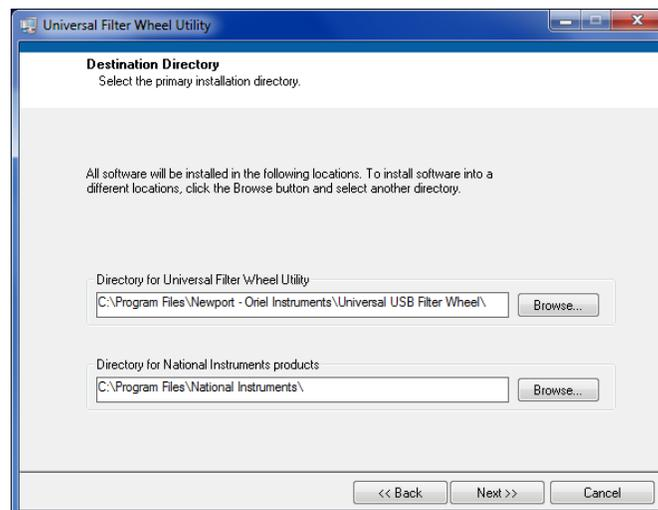

Figure 40: Destination Directory Selection
4. When the "Destination Directory" screen appears, the option is available to install the software into the default location or a different location. To install software into a different location, click the "Browse" button and select another directory. There are separate directories for APEX2 and National Instruments Products, as shown in Figure 40. Click "Next" to continue. During the installation, it is normal for other dialog boxes to flash as software is added.